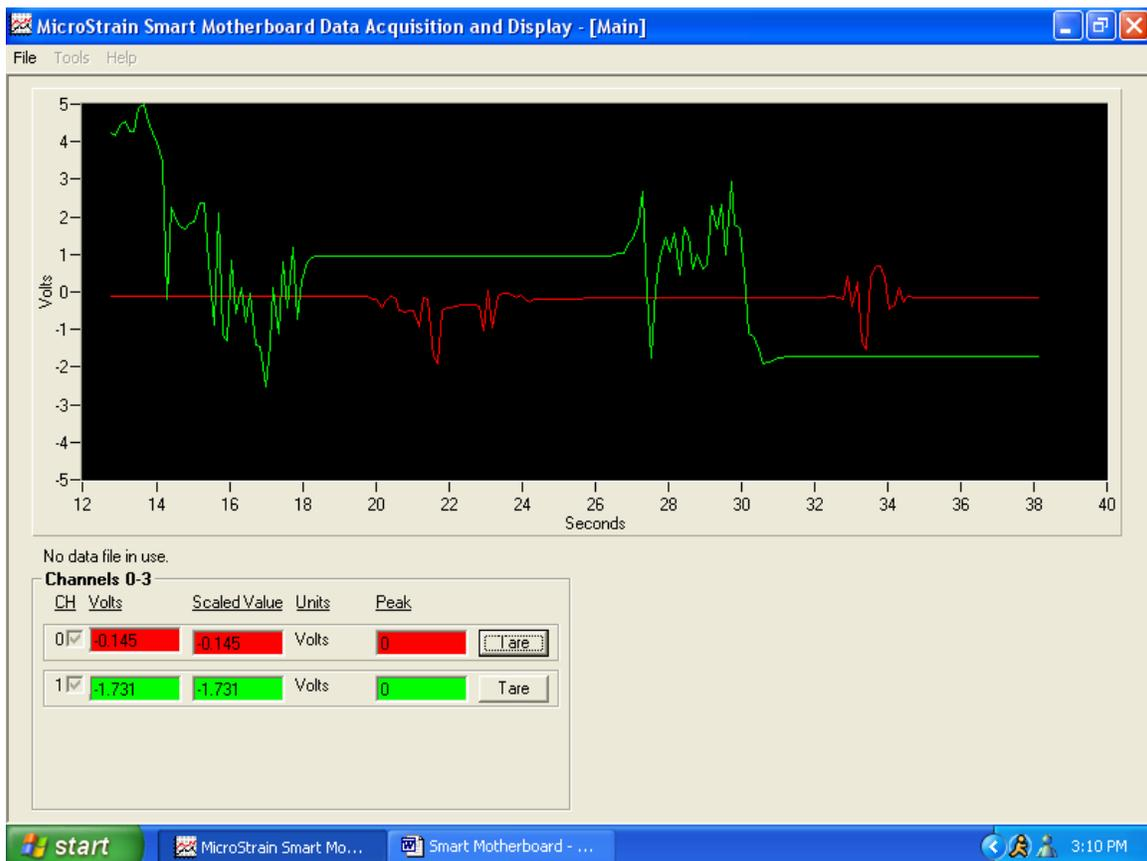

Figure 5.
- Continuous sampling will begin and the voltage values returned from each channel will be displayed in the Volts textbox contained in the Channel frames. In the example (figure 5), we see channels 0 and 1 as active, with channel 0 currently reporting -0.145 volts and channel 1 currently reporting -1.731 volts.